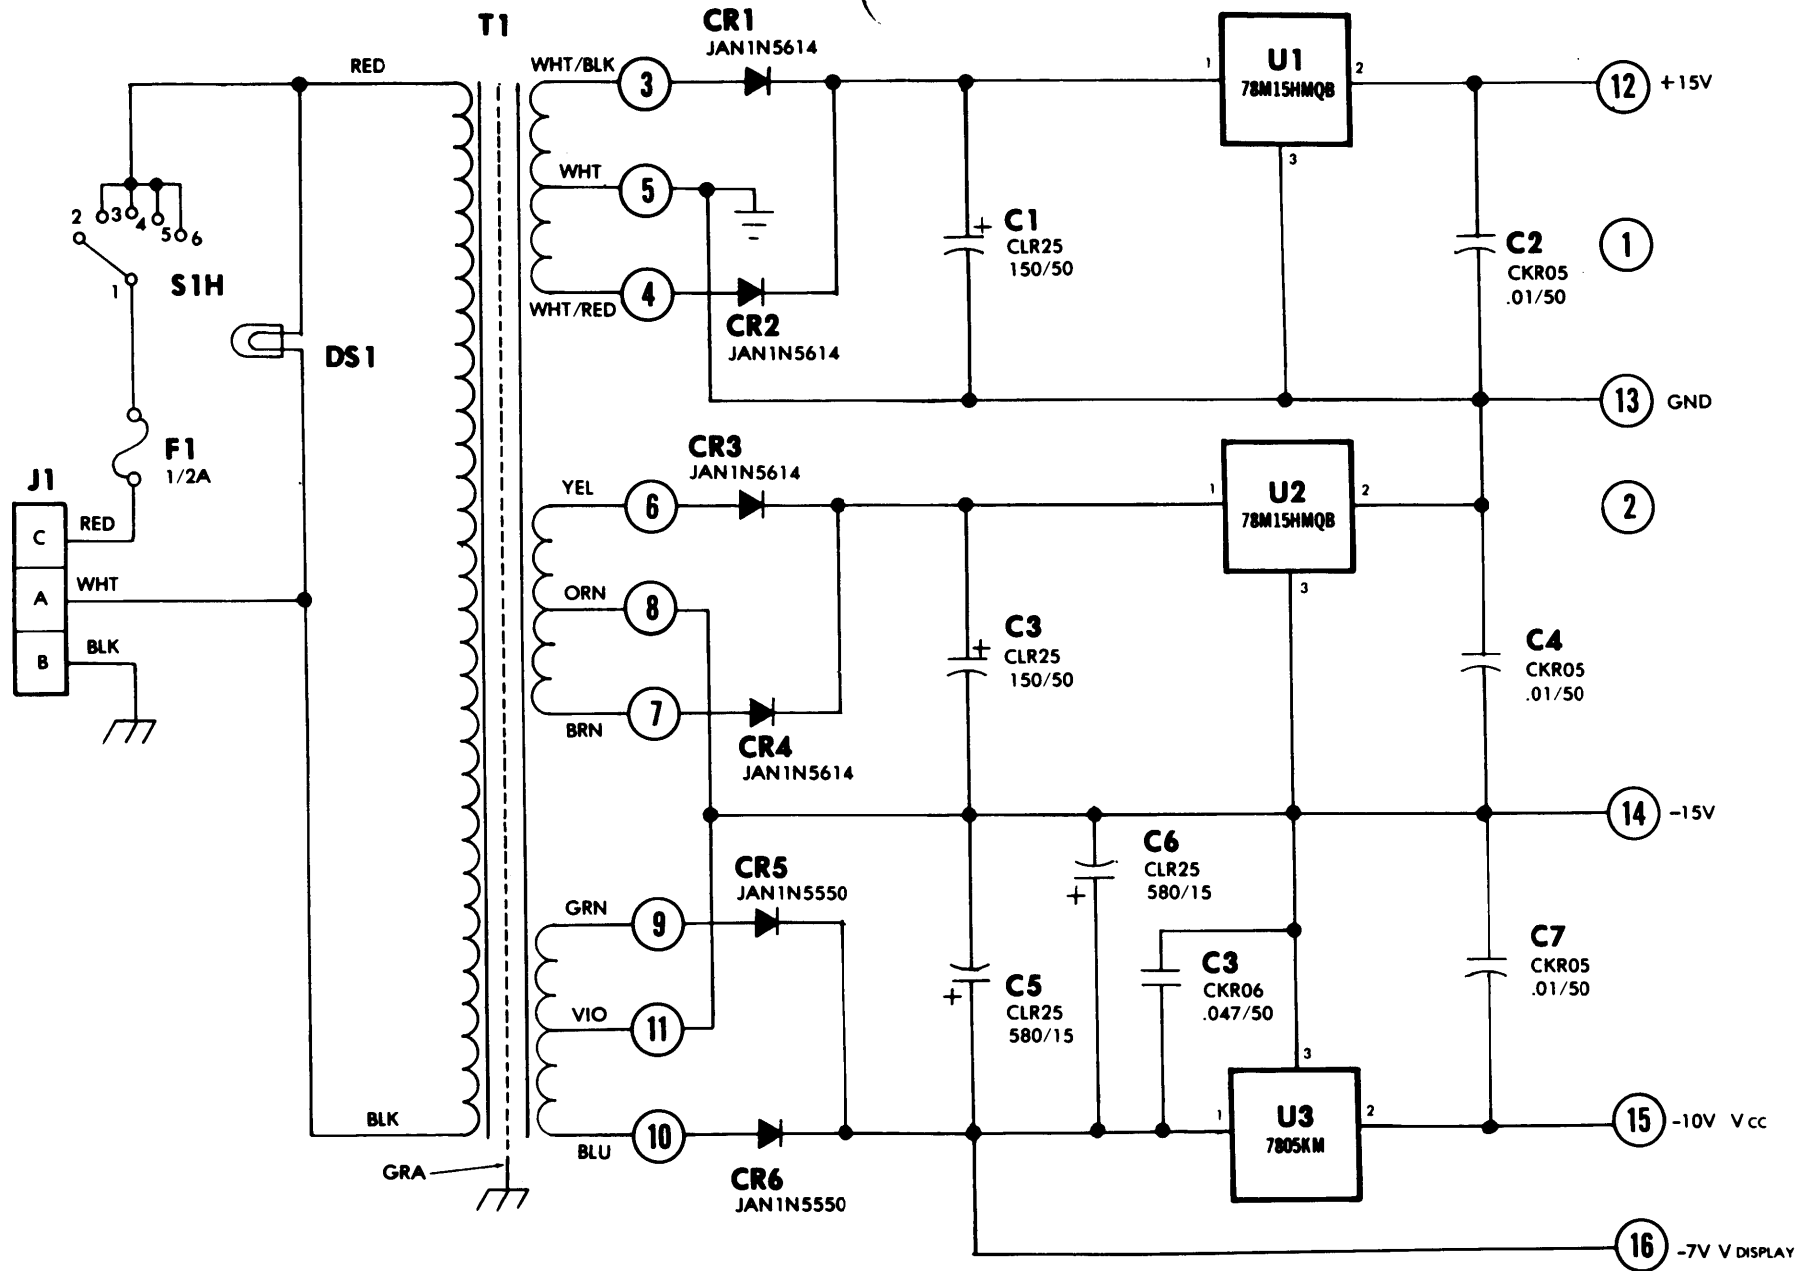

Figure 4-9. Power Supply Board A6.
**4-91 Power Supply Board A6.** (Refer to Fig 4-9). Pin 12 is +15V, pin 14 is -15V and pin 15 is -10V (referenced to system ground). Pin 16 is -7V (unregulated). Pin 13 is ground. Pins 3 through 10 are on T1 secondary. Pins 1 and 2 not used.